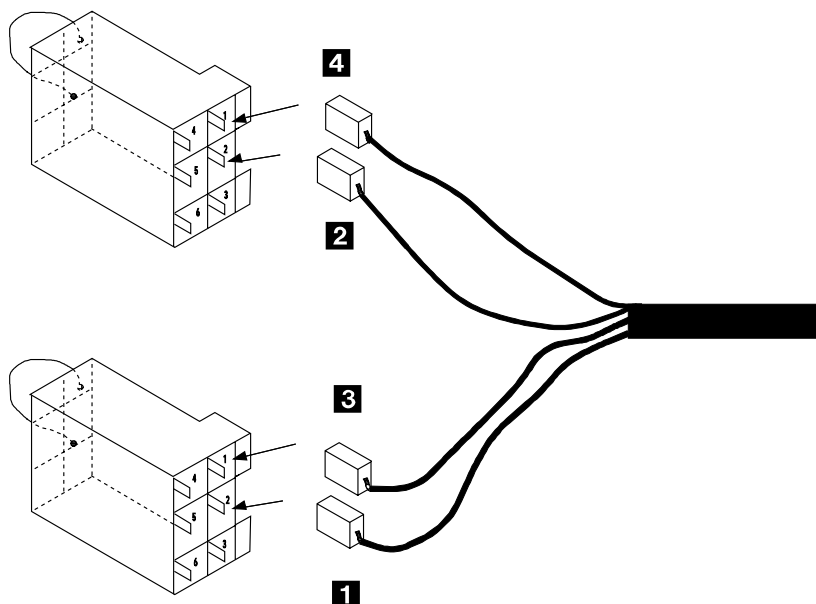

Figure 2-33. EPO Plugs
Step 1. ____ Connect the UEPO cable leads **1** and **3**, and **2** and **4** to the EPO plugs (PN 8482303) pins 1 and 2 (see Figure 2-33).